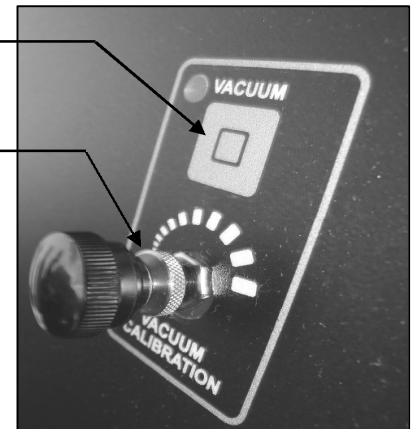

Figure 10
2. Push and release the VACUUM button on Tester's control panel. (Figure 10)
5. Locate Tester's vacuum calibration adjuster. (Figure 10)
6. Unlock the adjuster by loosening the knurled lock nut on the regulator's shaft. (Figure 10)
4. Press VACUUM switch on Tester's control panel. (Figure 10)